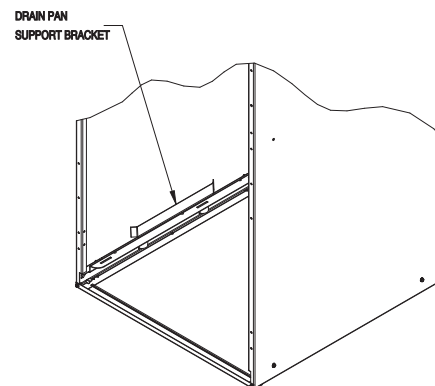

Fig. 7 - Drain Pan Support Bracket
5. Remove horizontal drain pan support bracket from coil support rail on left side of unit and reinstall on coil support rail on right side of unit. (See Fig. 7.)